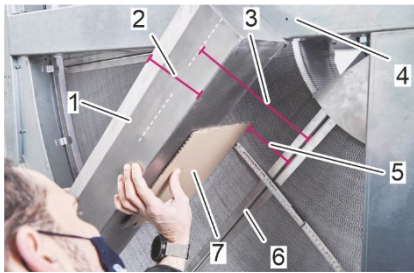

Fig. 51: Align drip pan
3. Hold the drip pan (Fig. 51/1) on the rotor frame (Fig. 51/4) on the exhaust air side.
4. Align the drip pan (Fig. 51/1) parallel to the rotor segment (Fig. 51/6). The distance to be set (Fig. 51/5) results from the distance measured in step 2 (Fig. 51/3) minus half the width (Fig. 51/2) of the drip pan (Fig. 51/1).
*Use a suitable measuring stop (Fig. 51/7) (e.g. a piece of cardboard) to measure the distance between the drip pan and the rotor segment.*